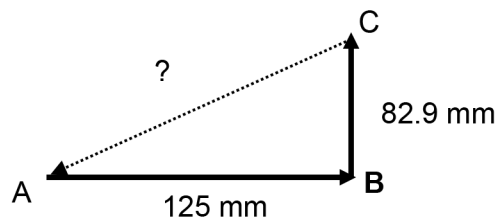

Figure 2 – Not to scale
- d) A machine tool moves from A to B then, after turning at a right angle, from B to C as shown on Figure 2.